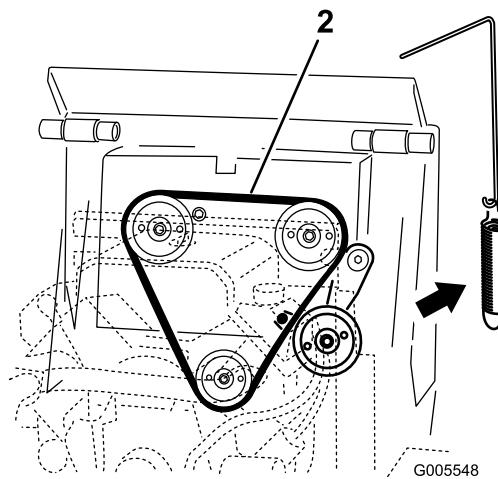

Figure 44
4. Remove the idler pulley spring from the idler pulley assembly (Figure 44).
6. Install a new drive belt around the three pulleys (Figure 44).